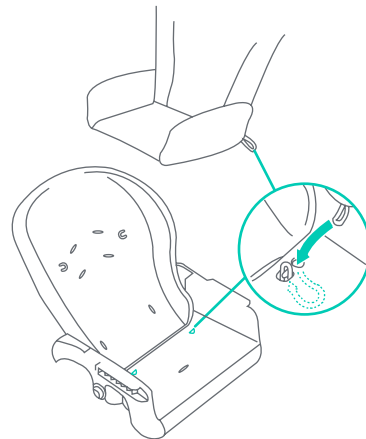

Fig. 7b
- Attach the bottom of Seat Pad to the Seat Base with the two Elastic loops located at the rear of the bottom of the Seat Pad. These fit over the Attachment Tabs located on the Seat Base near where the Seat Back and Seat Base Join (Fig. 7b).